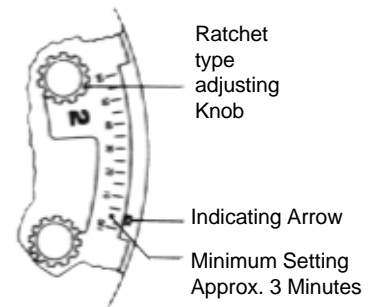

Figure 6
5. Adjust each station **TIME** control to the 5 minute mark. See **Figure 6**.